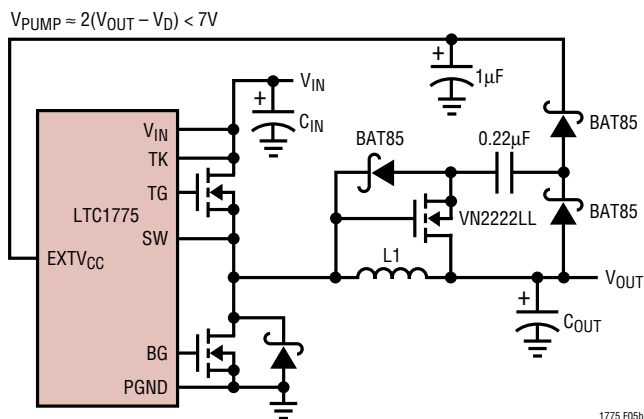
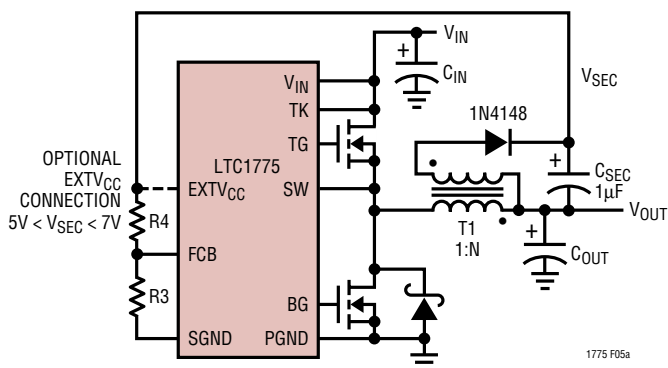

Figure 5b: Capacitive Charge Pump for EXTV_{CC}
Figure 5a: Secondary Output Loop and EXTV_{CC} Connection
3. EXTV_{CC} connected to an output-derived boost network. For 3.3V and other low voltage regulators, efficiency gains can still be realized by connecting EXTV_{CC} to an output-derived voltage which has been boosted to greater than 4.7V. This can be done with either an inductive boost winding as shown in Figure 5a or a capacitive charge pump as shown in Figure 5b.
The secondary output voltage V_{SEC} is normally set as shown in Figure 5a by the turns ratio N of the transformer: